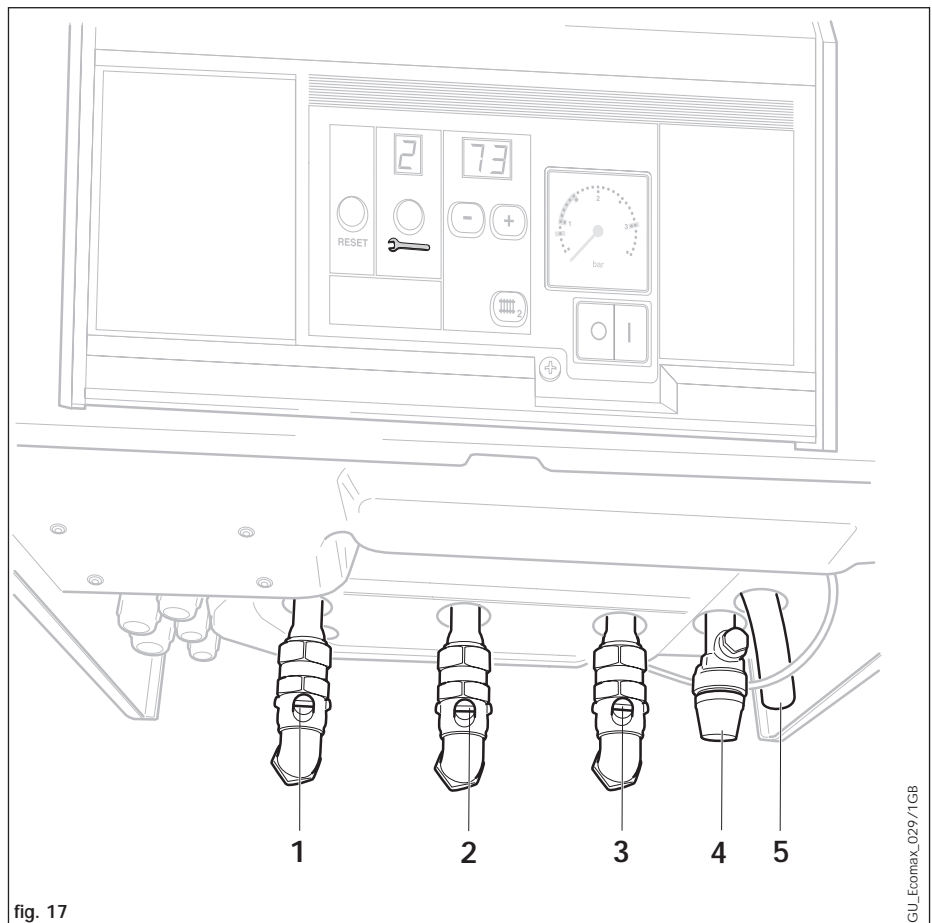

fig. 17
4.5.2 Pipework connections (fig. 17)
The pressure relief valve required for a sealed central heating system is supplied loose within the appliance cardbox. Connect the pressure relief valve to the boiler (4, fig. 17).
The boiler is supplied with a 20 mm x 15 mm compression gas service valve (2, fig. 17). Fit the 20 mm compression fitting to the boiler gas inlet and tighten. Connect the pre-formed copper pipework to the gas service valve. Install a gas supply pipe not less than 15 mm diameter and connect to the pre-formed copper pipework (Ensure the gas supply pipe is adequately sized such that a 20 mbar (8" w.g.) gas pressure is available at the boiler inlet at full flow rate). Tighten all union connections.